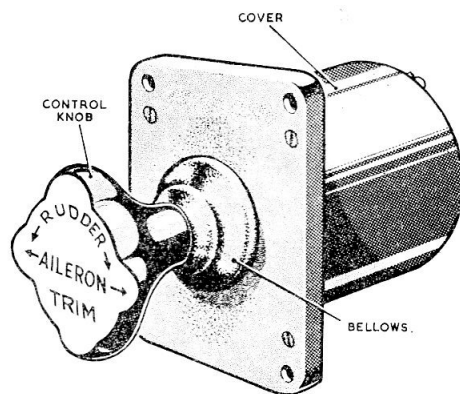

Fig. 1. Trim switch, Type TS321, Mk. 21
1. The trim switch, Type TS321, Mk. 21 (fig. 1) is used for switching the aileron and rudder actuators on and off.